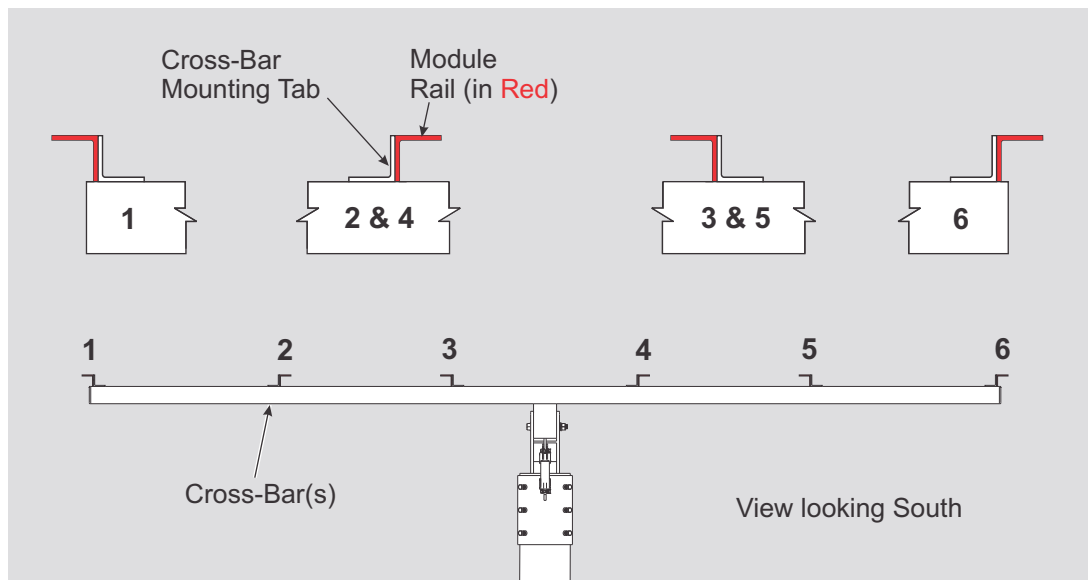
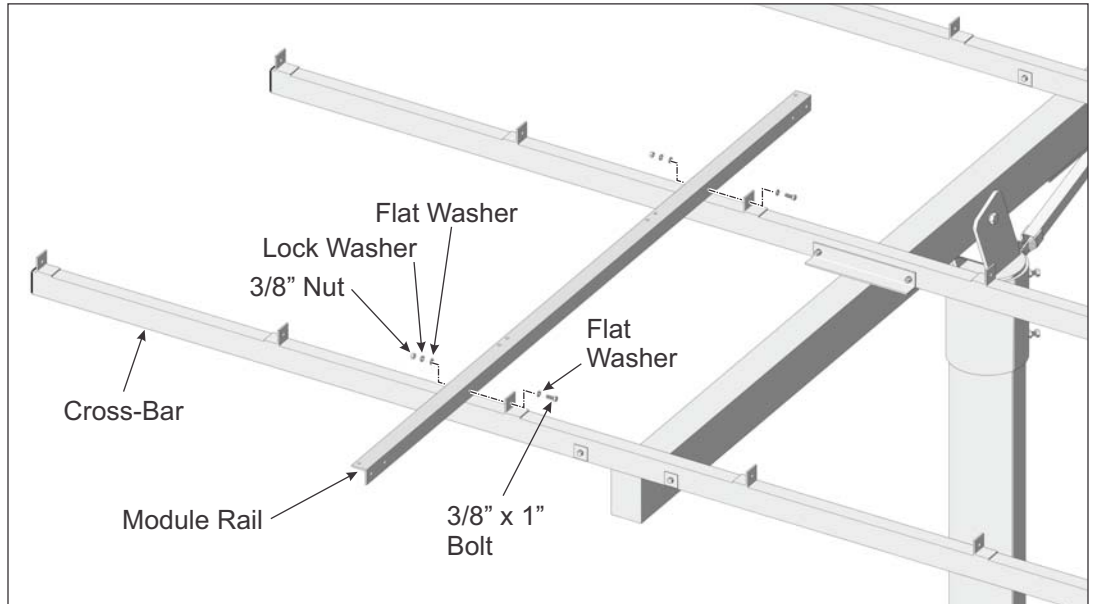

Figure 4-1: Orientation of Module Rails to Cross-Bars
Figure 4-2: Installing southern inboard Module Rail to Cross-Bars
The Cross-Bars have six locations where Module Rails are attached. At each of these locations two Rails are installed and butt jointed using Splice Plates. Splice Plates are positioned on the outside of the Module Rails (See Figure 4-1) and secured using 3/8" x 1" bolts and hardware. There are six Splice Plates to install.
Additionally, Module Rails are installed differently depending on where they are located on the Cross-Bars and the orientation of the mounting tabs of the Cross-Bars. Follow these instructions carefully for the correct orientation. (See Figure 4-2)
- A. Referring to Figure 4-1 for orientation of the Module Rails, position the first section of inboard Module Rail in the southern position on the Cross-Bars. Align the Module Rail mounting holes with the holes of the Cross-Bar mounting tabs and secure with 3/8" x 1" bolts and hardware. Finger-tighten for now. (See also Figure 4-2)
Continue in this manner and install all remaining Module Rails (ten more) while being mindful and following Figure 4-1 for proper orientation of the Rails to the Cross-Bar mounting tabs.